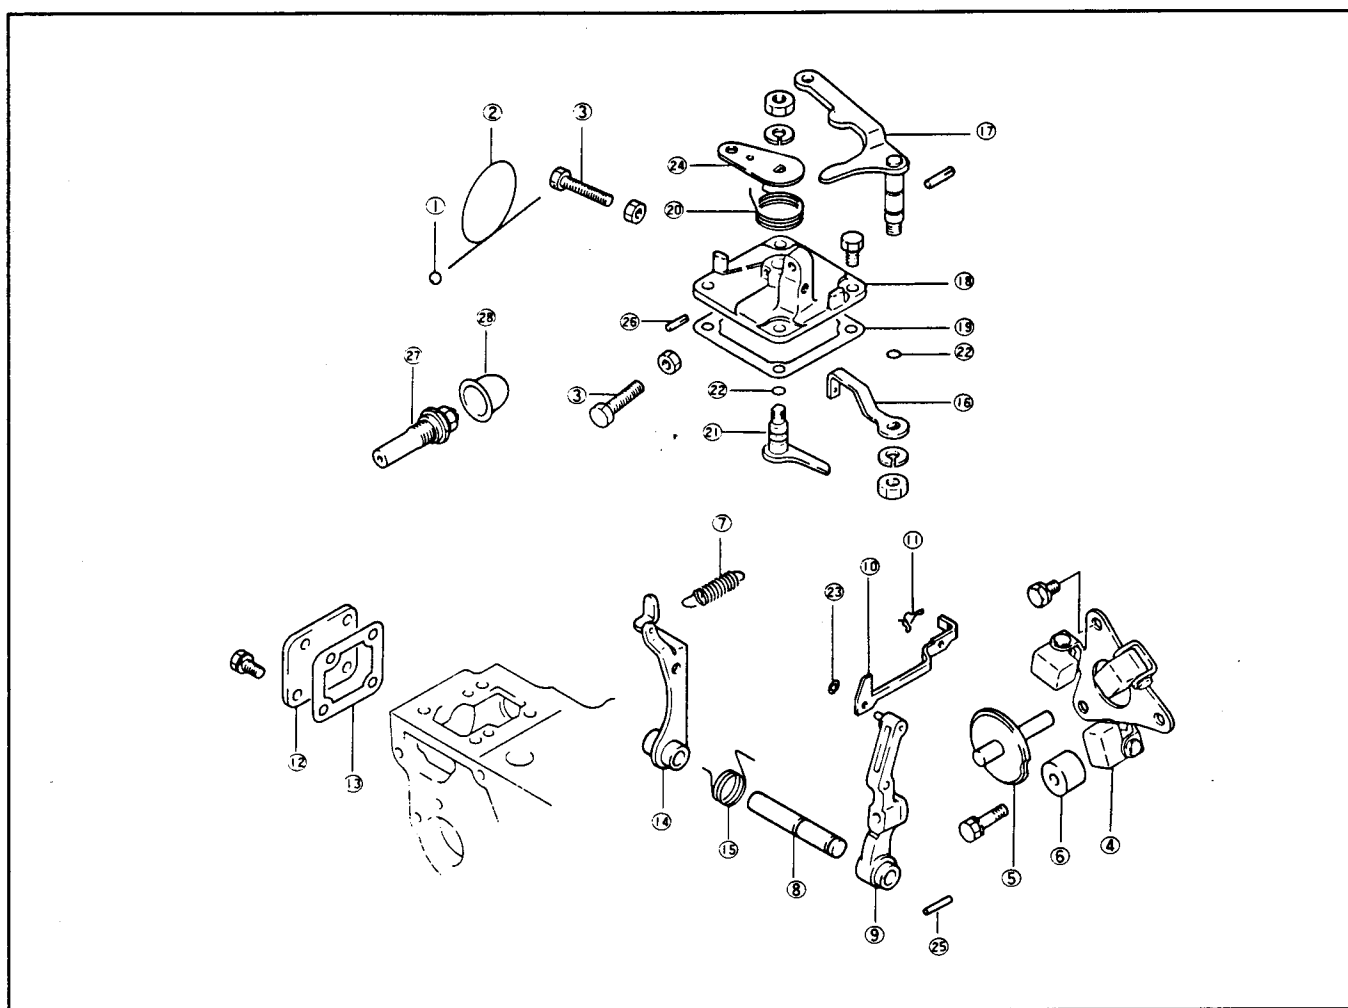

Figure 33
3. While holding the stop lever (Fig. 33) in the stop position (towards the rear of the machine) turn the ignition key switch quickly to the START position and release it to the ON position. This will retract the stop solenoid plunger, allowing movement of the injection pump control rack.
1. Remove the tie rod cover (Fig. 33).